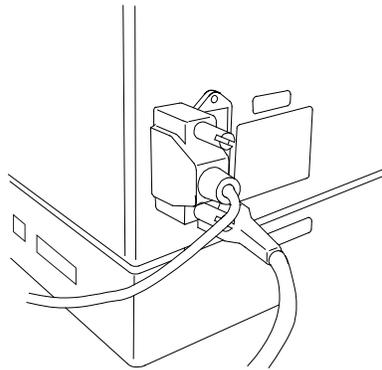

Figure 16 The side panel of the autosampler
2. Fit the molded socket of the mains cable into the plug on the side panel of the Autosampler (Figure 16).
1. Attach the male connector into the DB25 receptacle on the left side of the Autosampler (Figure 16), and tighten the screws.